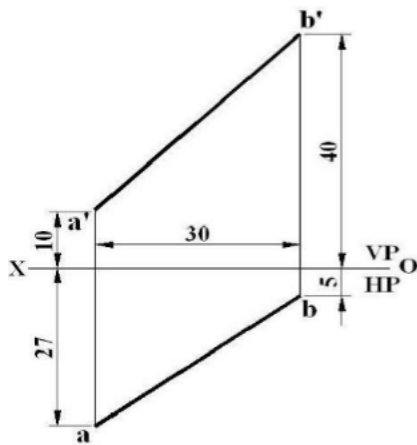

Figure P4.1
1. Orthographic projection of a line is given in **Figure P4.1**. Determine their true lengths and inclinations with the HP using